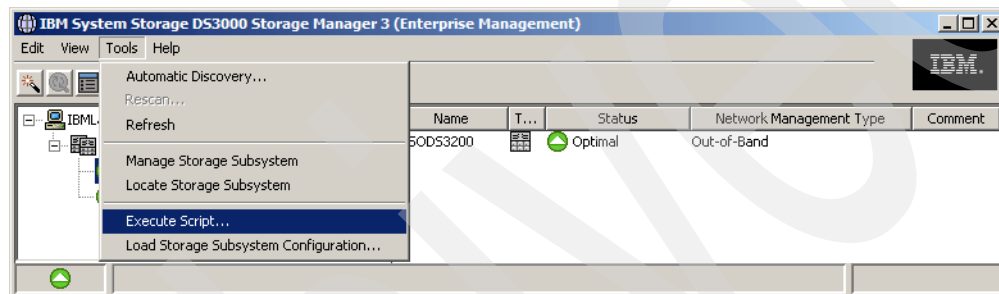

Figure C-1 Invoke Script Editor
1. To start the Script Editor, from Storage Manager, select **Tools** → **Execute Script**, as shown in Figure C-1.